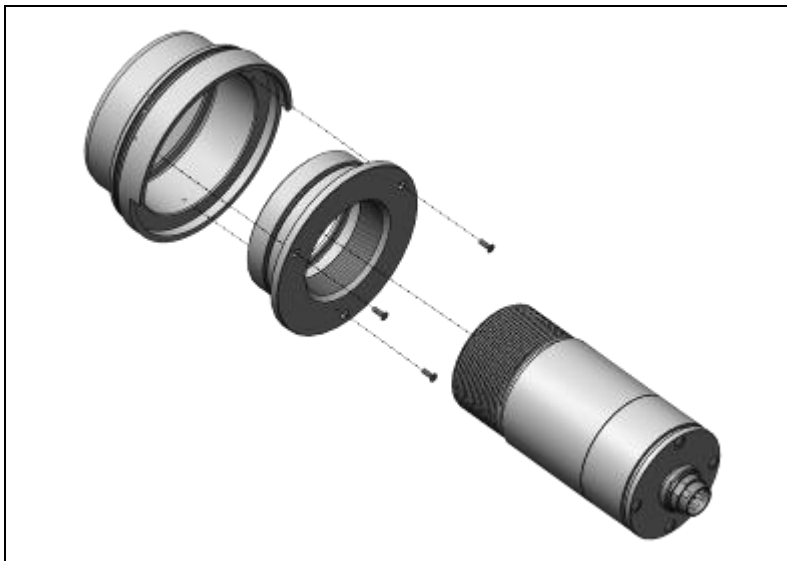

Figure 22: Assembling of the CTlaser, CSLaser, CTvideo, CSvideo
1. Screw the infrared thermometer in the thread (M48x1.5) of the front part (see **Figure 22**) and seat the front part in the chassis (**Figure 37**).